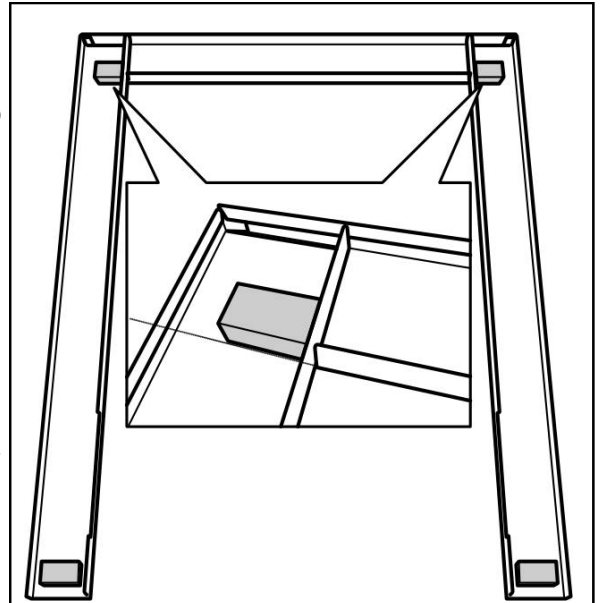

Figure 17. (Anthem, Minima and Style fascia only - shown with three piece fascia).
4. Locate the four magnets on the side trims as in figure 17. Note that the bottom edge of the the upper magnets are in line with the bottom of the top trim.